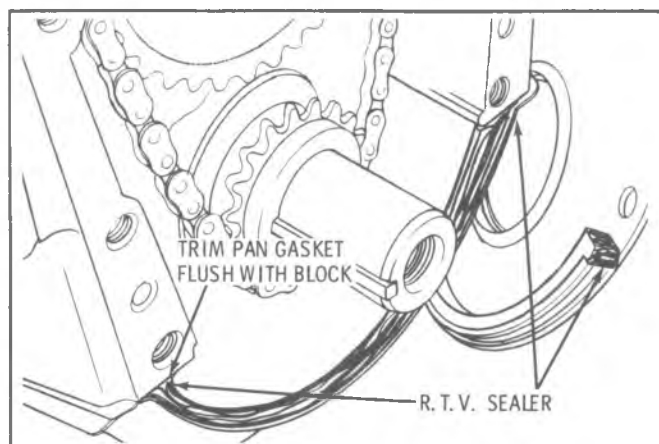

Fig. E-76—Apply Sealer and Trim Pan Gasket
6. Apply R.T.V. sealer at junction of block, pan and front cover as shown in Fig. E-76.